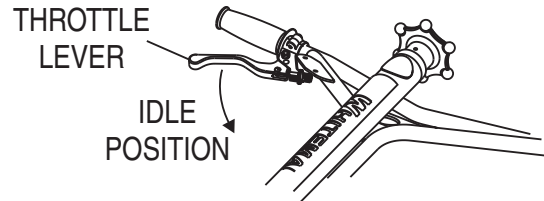

Figure 17. Throttle Lever (Idle Position)
2. Place the trowel's ***throttle lever*** (Figure 17) to the "IDLE" position.